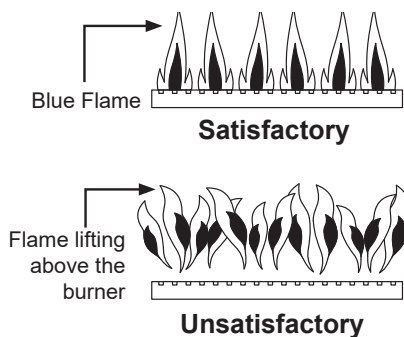

Figure 34 - Check Burner Flames
- Visually check the burner flames through the burner window (sight glass) on the burner assembly. The burner assembly is located in the middle of the water heater. A properly operating burner should produce clear, blue, stable flames. The flames should not be lifting above the burner. Contaminated air may cause a discolored flame. Contact a qualified technician if the flame is not satisfactory. See Figure 34 below for burner flame reference.